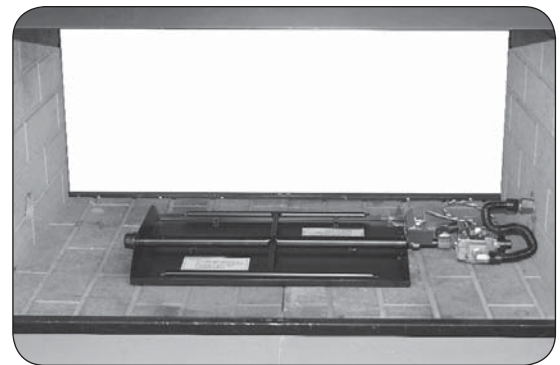

Fig. 16-2 Center burner in firebox
4. Place the burner system in the fireplace. Center the burner from left to right in the firebox. See Fig. 16-2.